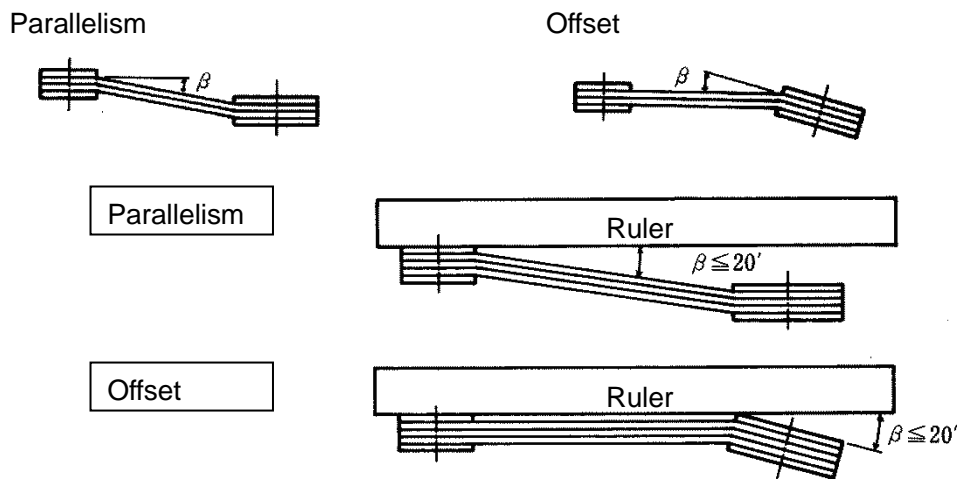

Fig.1 Parallelism and Offset
- (1) Remove belt cover.
- (2) Loosen the old belt as loosening the nuts fixing the motor, remove the belt.
- (3) Install the new belt. If multiple belts are used, it is recommended to use "matched set" of which the circumference length is the same.
- (4) Adjust the parallelism and offset as putting a ruler on motor pulley and blower pulley, at the same time, adjust deflection as you give tension at the center of the span to the belt. (Fig.1 and 2)